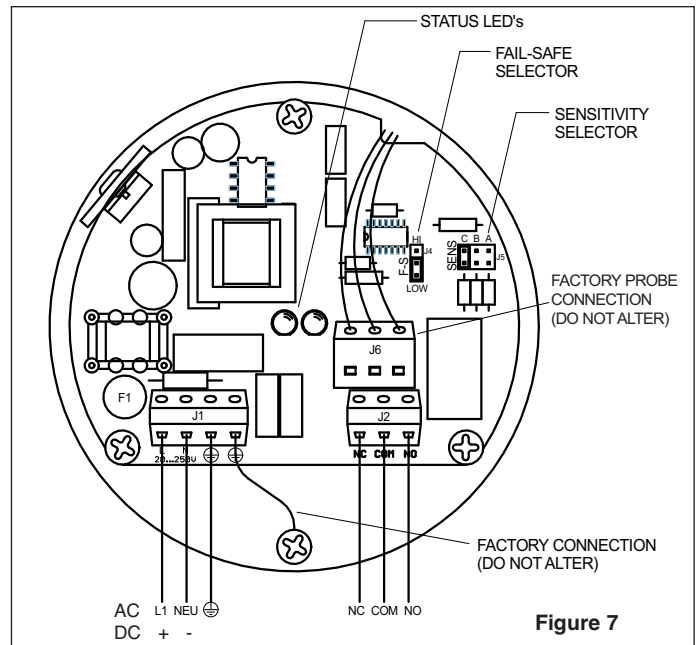

Figure 7
The probe wires internal to the housing are connected to the frontside of the PCB. **DO NOT** alter this connection. Doing so will likely cause improper operation of the sensor and likely permanent damage. (See Figure 7)
- 2) **Power Input:** (See Figure 7) The **PZP** sensor is provided with a HI / LOW voltage, AC/DC universal power supply. If using a DC power supply, polarity is irrelevant.
Fail-Safe (Selector "J4" in Figure 7):